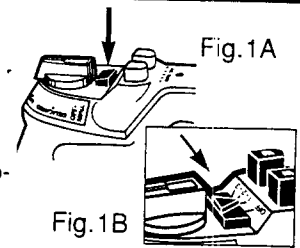

Fig. 1B
2. Place iron in upright position. Turn the Temperature Selector Dial to OFF and lower the Steam/Dry Button* to dry (Fig. 1A) or move Adjustable Steam Control* to the OFF position (Fig. 1B) depending on model.